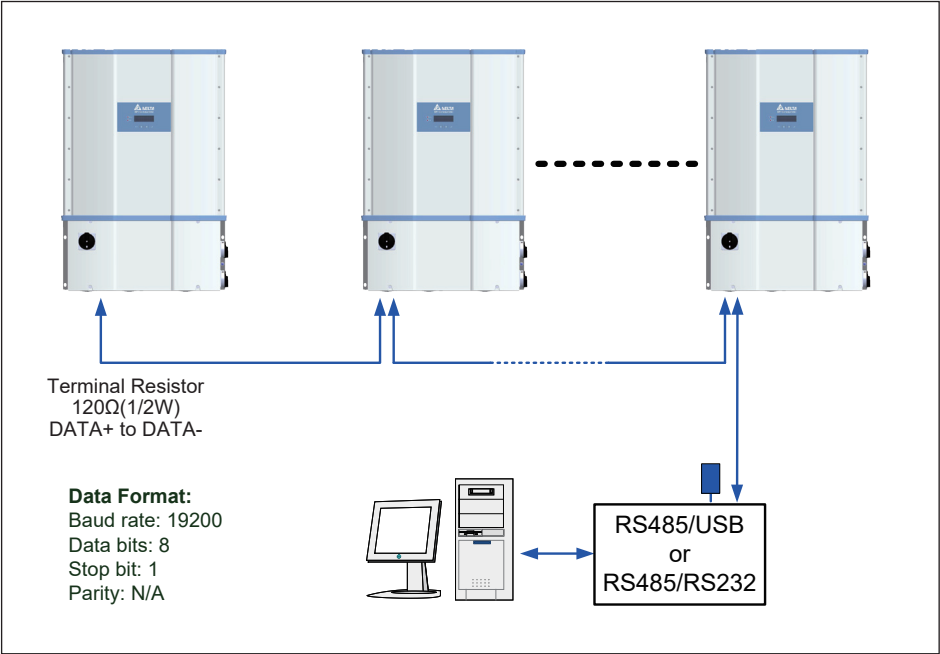

Figure 3-27: Multiinverter connection illustration
A 120ohm bus termination resistor and associated control switch are located on the communication board (See **Figure 3-27**) The switch function is as shown in **Table 3-2**.
- When several inverters are cascaded (i.e., "daisy-chained") only the last inverter in the chain must have its bus termination resistor switched ON. Refer to **Figure 3-27**.